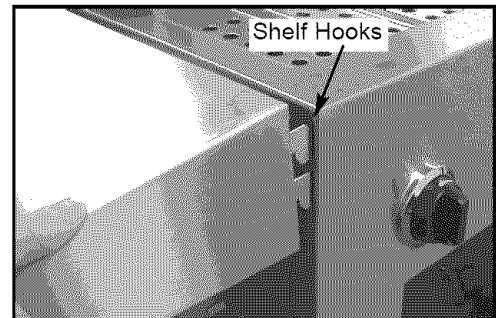

Fig. 13
1. Attach the shelf to the left side of grill by inserting the shelf hooks into the slots on the side of the grill and pushing down on the shelf assembly until level with grill. (See Fig. 13)